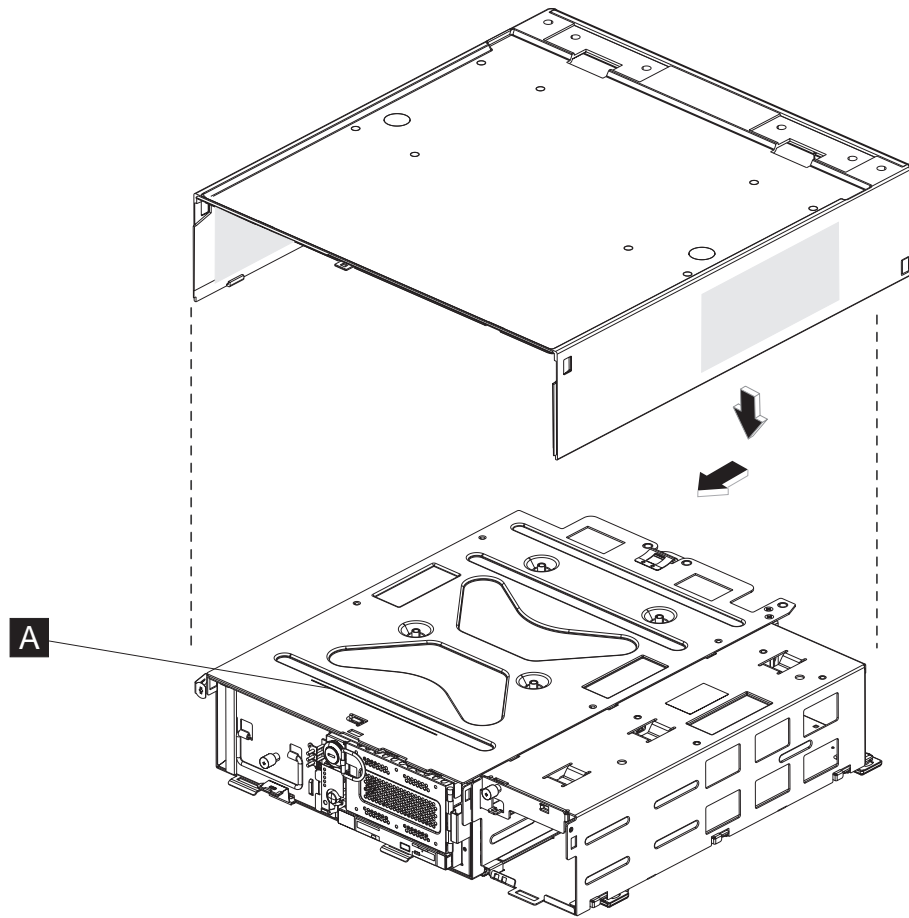

Figure 24. Installing the top cover
1. Place the top cover in position over the system unit so that the front edge aligns with the line imprinted on the top plate (**A** in Figure 24), and then press the top cover sides down and inward slightly while sliding the cover forward, to lock it into place.